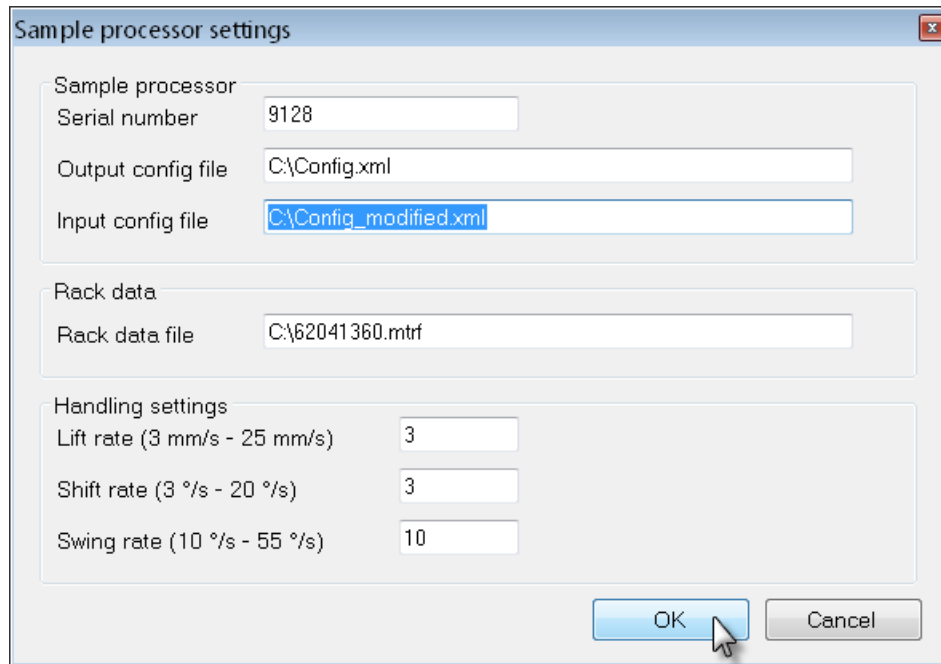

Figure 58 – The new *Config.xml* file can now be used as the Input config file
7. The new xml file can now be used in the *Sample processor initialize* command. Define the **Input config file** in the Sample processor settings window as the new xml (in Figure 58, *Config_modified.xml*).